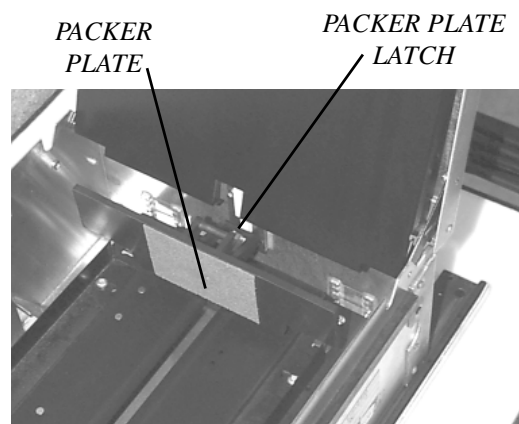

Figure 4-6. Packer plate latched at the rear of the cassette.
6. Pull the packer plate to the rear of the cassette (away from the shutter) until it locks to the white packer plate latch as shown in Figure 4-6. It will be necessary to push down on the packer plate latch to lock the packer plate in place. The packer plate will be held in this position until the lid is closed or the latch is released by pushing it down. Be careful not to release the packer plate onto your fingers.